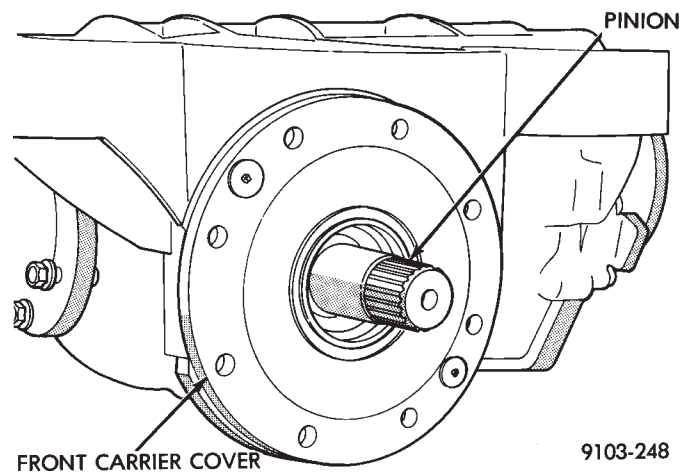

Fig. 9 Reinstalling Front Carrier Cover
(10) Reinstall front carrier cover into carrier case (Fig. 9). Install carrier retaining bolts and tighten to 12 Nm (105 in. lbs.).